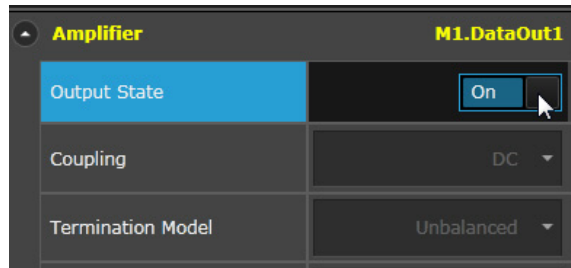

Figure 46 Enable pattern generator output
- 10 Enable the output of the pattern generator by clicking on the **Output State** slider as shown in Figure 46 on page -93.